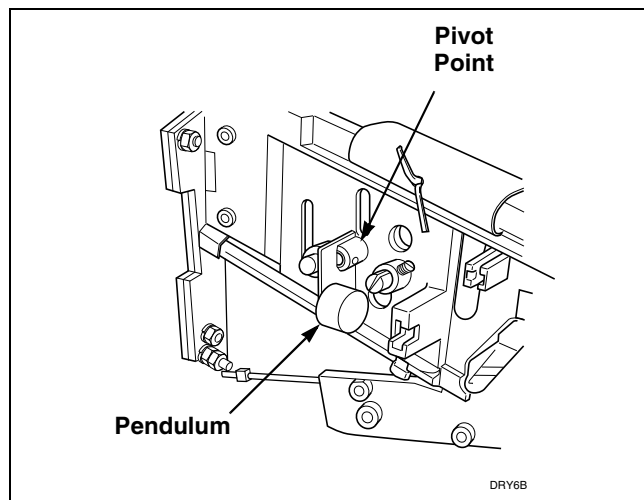

Figure 15
- i. Check coin return pendulum to verify it swings freely. If pendulum does not swing freely, spray pendulum pivot point with Teflon based lubricant and move pendulum back and forth two to three times. An additional application of Teflon based lubricant may be necessary to ensure that pendulum swings freely. Refer to *Figure 15*.